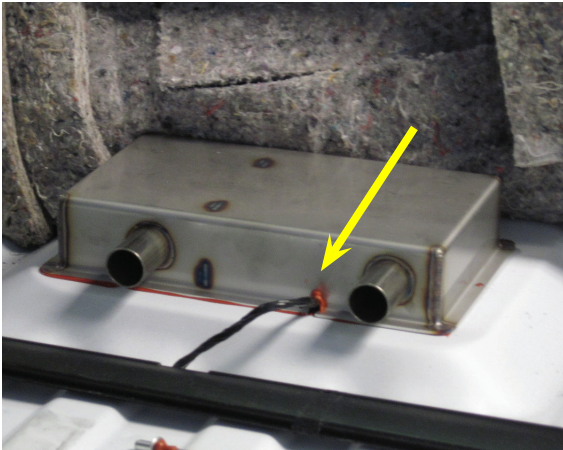

Figure 7. Apply Silicone Around Wires
16. Clean the cover's wire slot, removing any burrs and nicks that could damage wires. Also, be sure the wires can easily pass through the slot (see Figure 7).
4. Place a generous amount of silicone around the taped wires that pass through the side of the cover surface (see Figure 7).